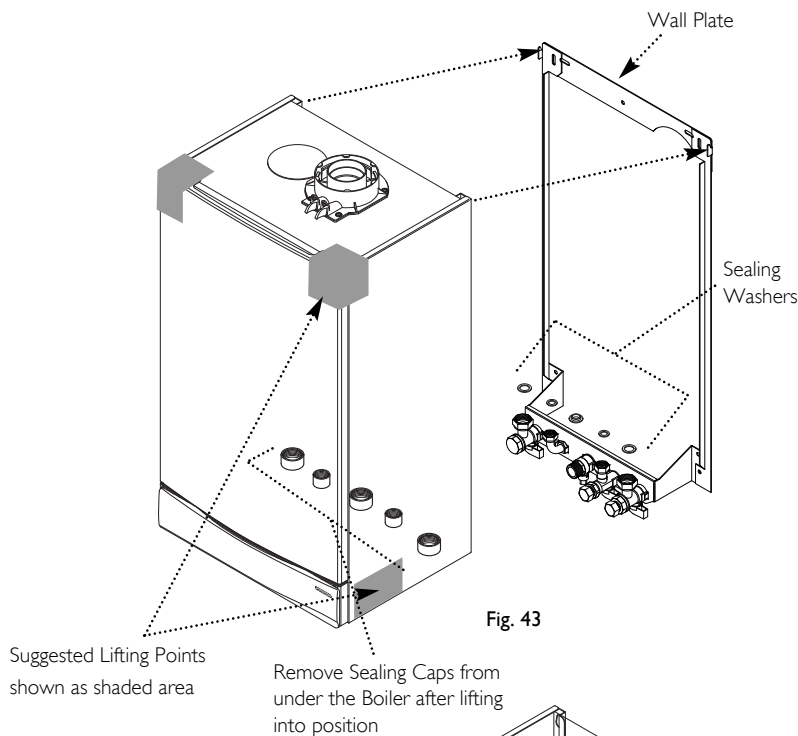

Fig. 43
1. Lift the boiler using the Lifting Points as shown by the shaded areas (Fig. 43). The boiler should be lifted by TWO PEOPLE. Engage the slots at the top rear of the boiler on the wall plate (see **Safe Manual Handling** page 5).